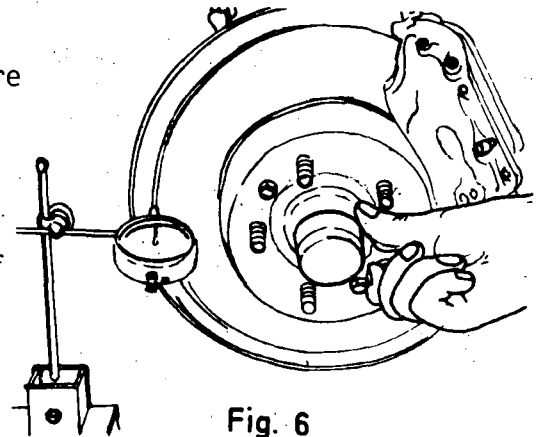

Fig. 6
- e) Check the state of the surface of the disc, making sure that it is not scratched, crystallised or running out. (fig. 6).